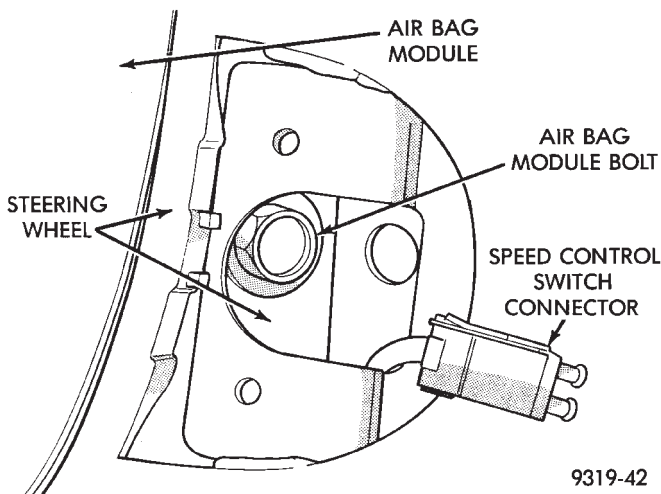

Fig. 3 Air Bag Module Attaching Bolts
(4) Remove the 2 bolts attaching air bag module to steering wheel (Fig. 3).